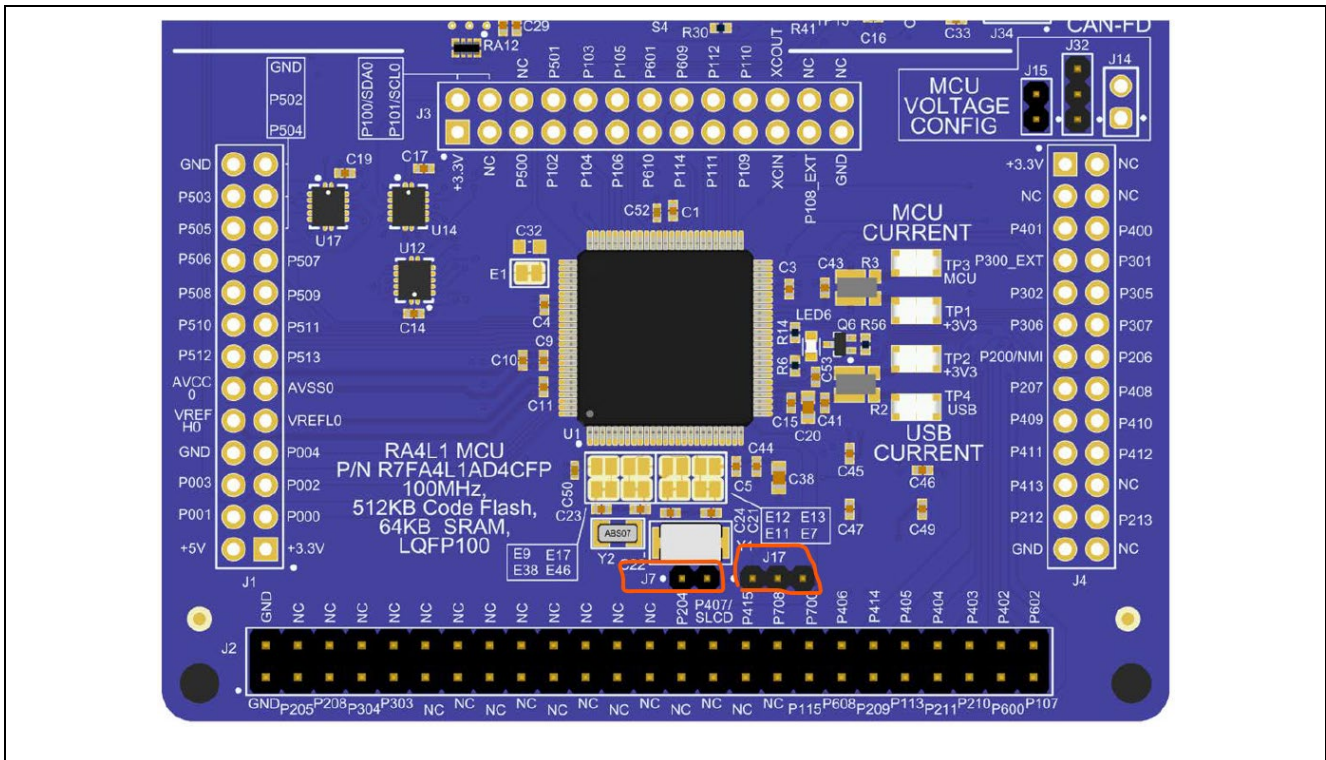

Figure 15. Locating J7 and J17 Jumpers on the EK-RA4L1 board
- b. File → Connect pops up a configuration window as shown in Figure 15. RTT Viewer configuration.